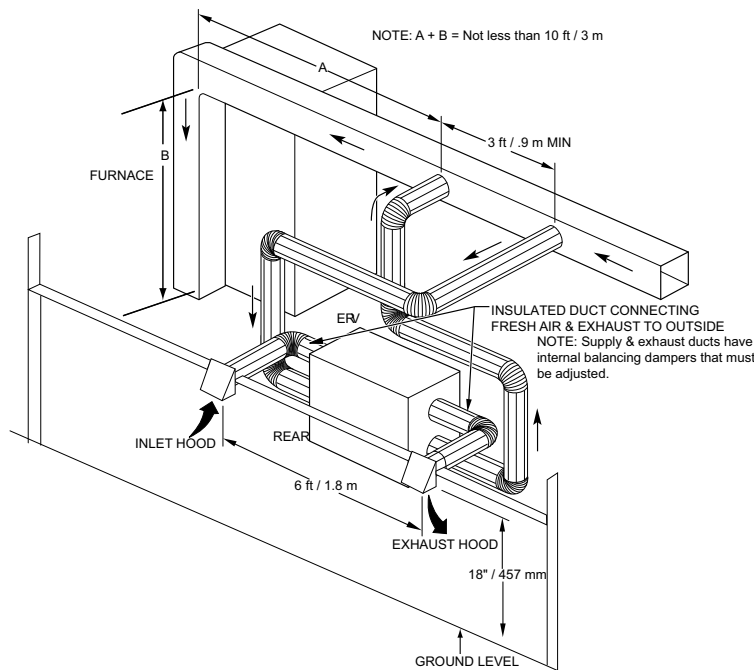

Fig. 7 - Exhaust Ventilation
Most ERV/HRV applications will be installed in conjunction with new or existing forced-air system. To operate properly, the fresh-air supply and stale-air return from ERV/HRV connect directly to return-air duct system. This is how the ERV/HRV distributes fresh air and removes stale air from inside of building. See Fig. 7. For these installations, furnace or fan coil blower must be interlocked and operate continuously whenever ERV/HRV is energized. See Fig. 17 for interlock wiring detail.
**NOTE:** The fresh air from ERV/HRV is introduced into return-air duct at a point no less than 6 ft (1.8m) upstream of furnace or fan coil. This connection should be direct. See Fig. 7. This is to allow incoming fresh-air to mix before entering indoor equipment.
Fresh-air intake and stale-air exhaust must be separated by at least 6 ft (1.8m). Fresh-air intake must be positioned at least 10 ft (3m) from nearest dryer vent, furnace exhaust, driveway, gas meter, or oil fill pipe. Fresh-air intake must be positioned as far as possible from garbage containers and potential chemical fumes. When possible, it is advised to locate the intake and exhaust hoods on same side of house or building. The intake and exhaust hoods should never be located on interior corners or in dead air pockets. See Fig. 7. Both intake and exhaust hoods must be 18-in (457mm) from ground and at least 12-in (305mm) above anticipated snow level.